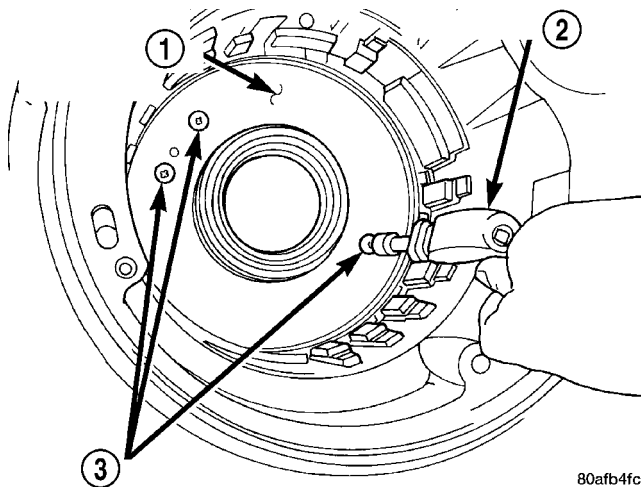

Fig. 80 Remove Piston Retainer-to-Case Screws
(63) Remove low/reverse piston retainer-to-case screws (Fig. 80).